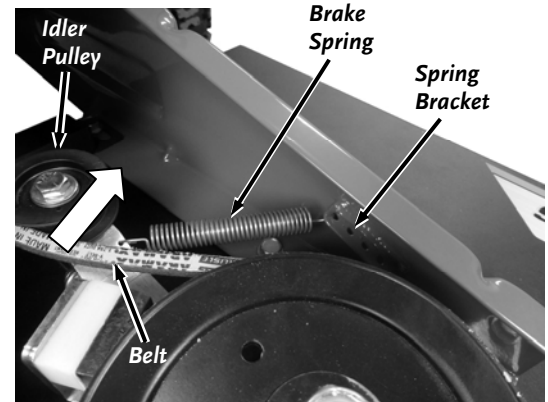

Figure 28
2. Unhook the end of the Brake Spring where it attaches to the Spring Bracket (**Figure 28**).